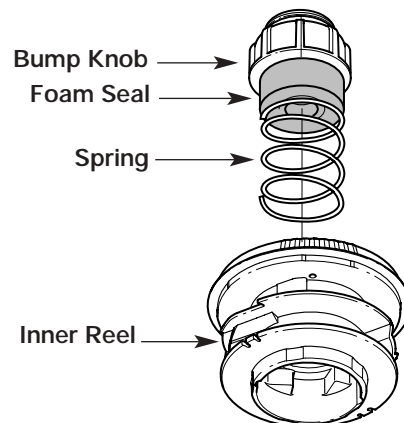

Fig. 42
1. Turn the bump knob counterclockwise and remove the bump knob, spring and foam seal (Fig. 42).
4. Hold the inner reel in place and install the bump knob, spring and foam seal. Press down and turn the bump knob clockwise. Grasp the ends and pull firmly to release the line from the holding slots in the inner reel (Fig. 42).
2. Pull out the bump knob, spring and foam seal (Fig. 42).
7. Place the bump knob, spring and foam seal into the inner reel (Fig. 42).